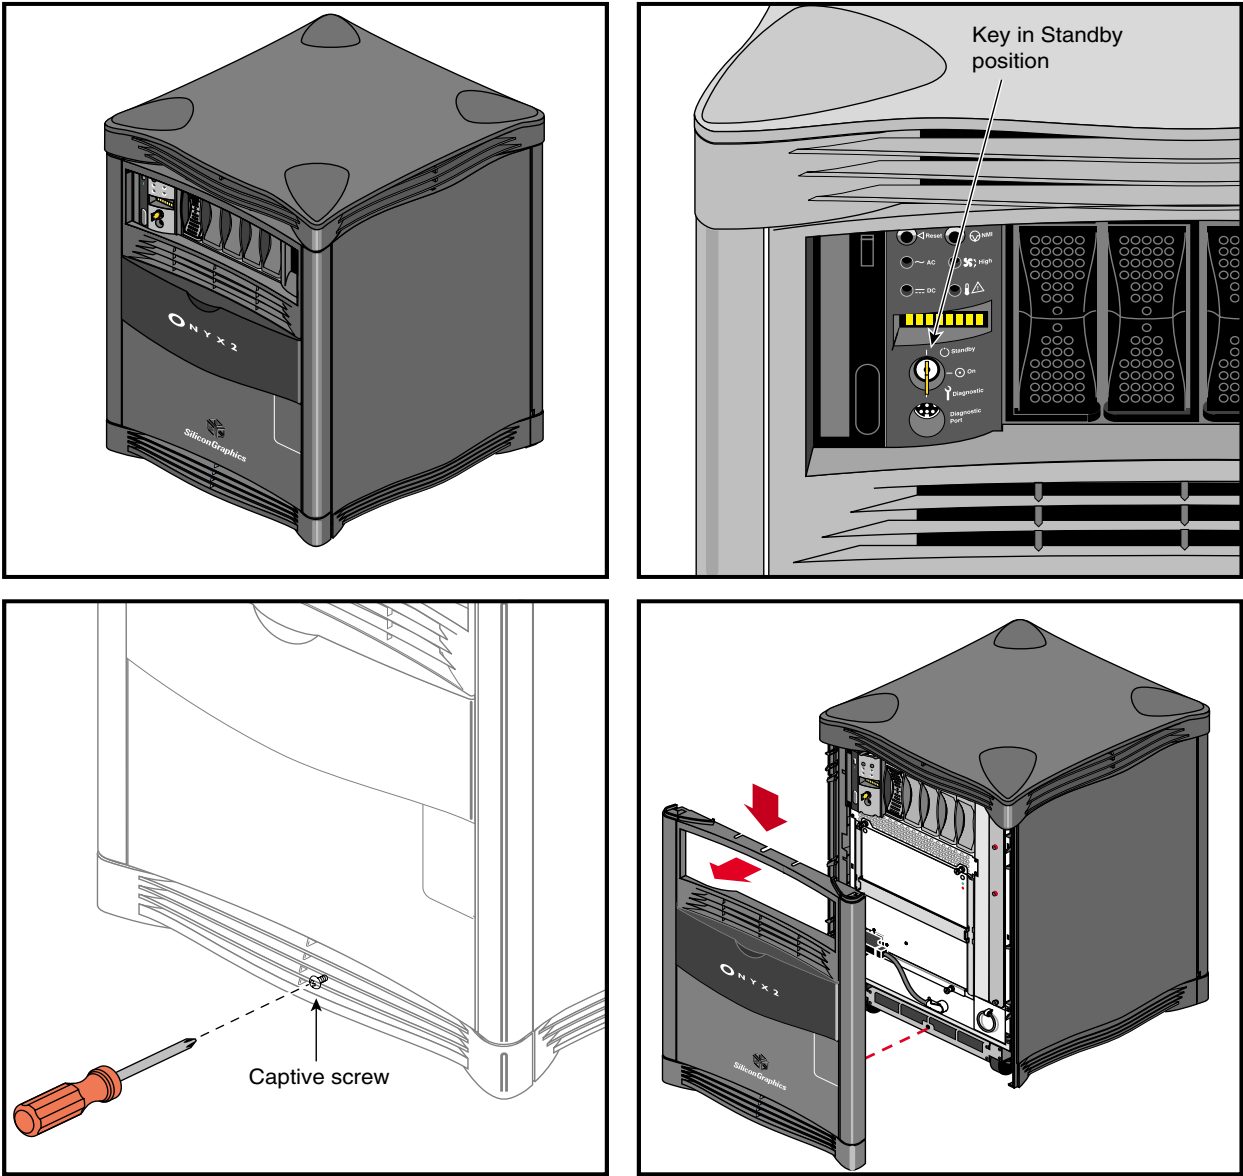

Figure 3-2 Removing the Front Cover
2. Remove the plastic front panel cover by undoing the captive Phillips-head retaining screw located near the center of the bottom grill (see Figure 3-2).